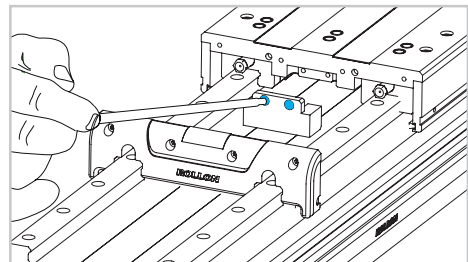

Fig. 3
- 2) Disassemble the inner block on both ends of the carriage (Fig. 3).